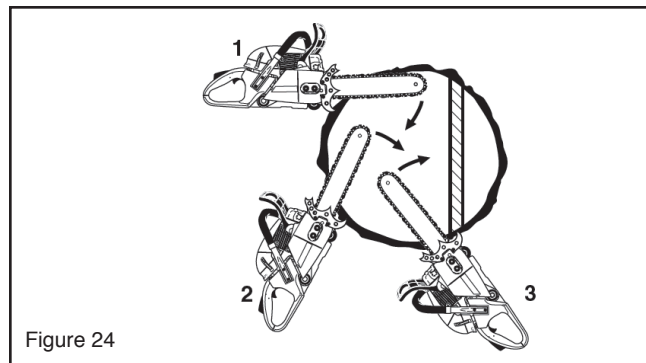

Figure 24
2. For the sectioning method (Figure 24), make the first cut with the guide bar fanning in toward the hinge.